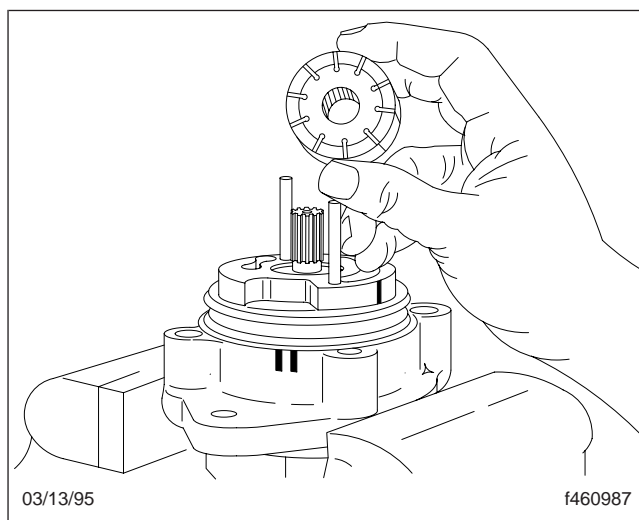

Fig. 11, Removing the Rotor and Vanes
10. Look for wear on the outside edge of the vanes. Note and record the direction of the wear for assembly. Carefully remove the rotor and vanes, as the vanes will slip from their slots in the rotor. See Fig. 11.